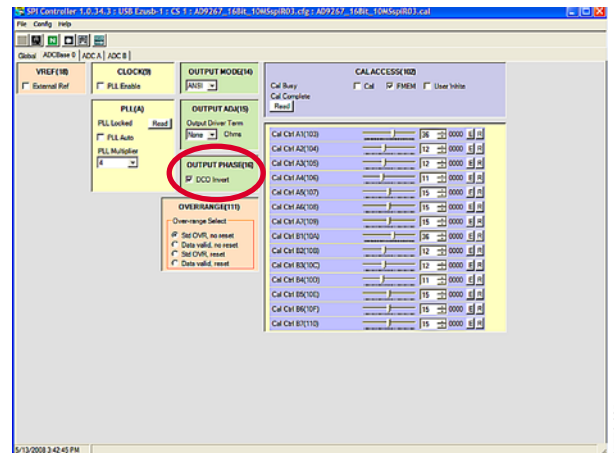

Figure 17. DCO Invert
1. Check the **DCO invert** bit in the SPIController software of the AD9267 (see Figure 17).